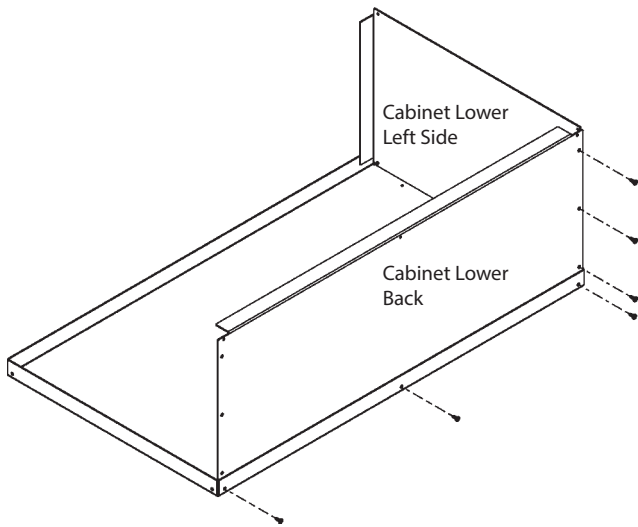

Figure 6.2
2. Assemble cabinet lower back to cabinet lower left side and cabinet base using 6 screws. See Figure 6.2.